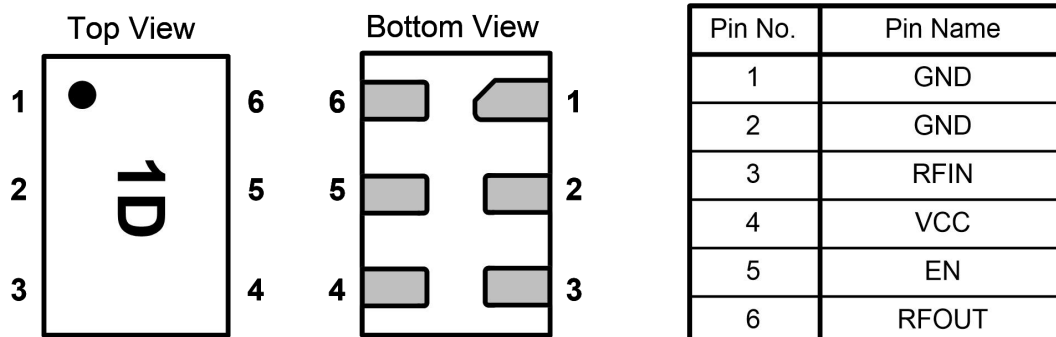

Figure 2. SW7125D Pin Configuration and Marking
1. The SW7125D requires only one external inductor for input matching. If the device/phone manufacturers implement very good power supply filtering on their boards, the bypass capacitor mentioned in this application circuit may be optional. With the capacitor, we can get better performance like a little higher gain etc. The value is optimized for the best gain, noise figure, return loss performance. Typical value of inductor is 9.1nH, capacitor is 1nF. For schematics see Figure2.